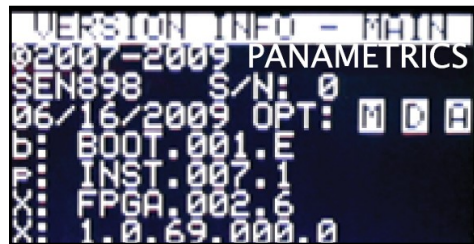

Figure 54: Option card verification screen
3. Press [ENT] again to enter Option Cards. The display should appear similar to *Figure 54* below.